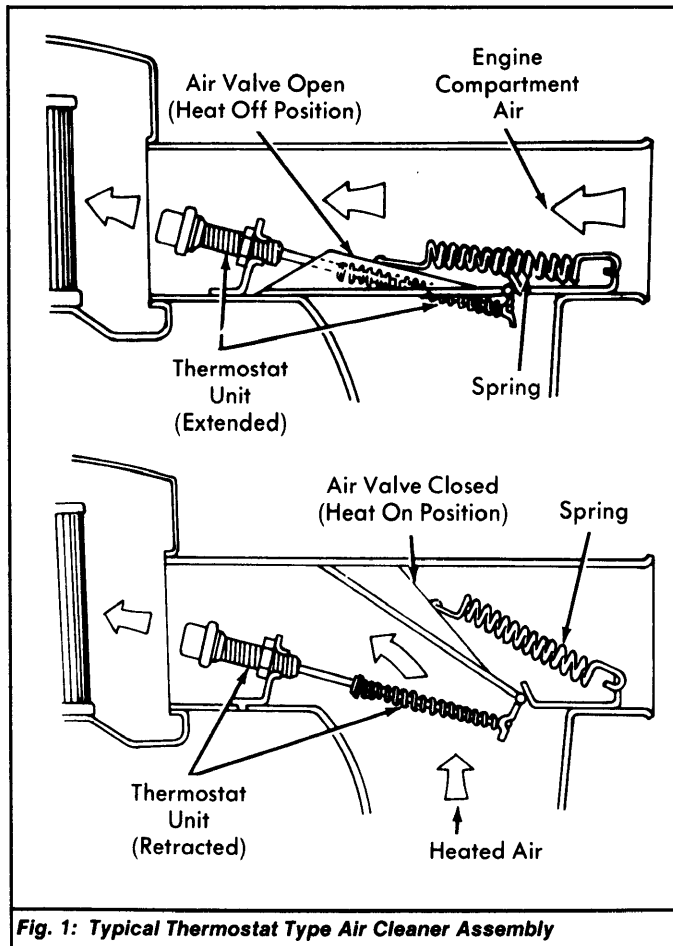

Fig. 1: Typical Thermostat Type Air Cleaner Assembly
**Thermostat Type** - A spring attached to the air door pulls door shut (no outside air). As thermostat unit warms from heated air, thermostat unit link arm extends to overcome spring, and open air door to outside air. As outside air is blended with heated air, thermostat unit will modulate air door to maintain proper air cleaner temperature. See Fig. 1.